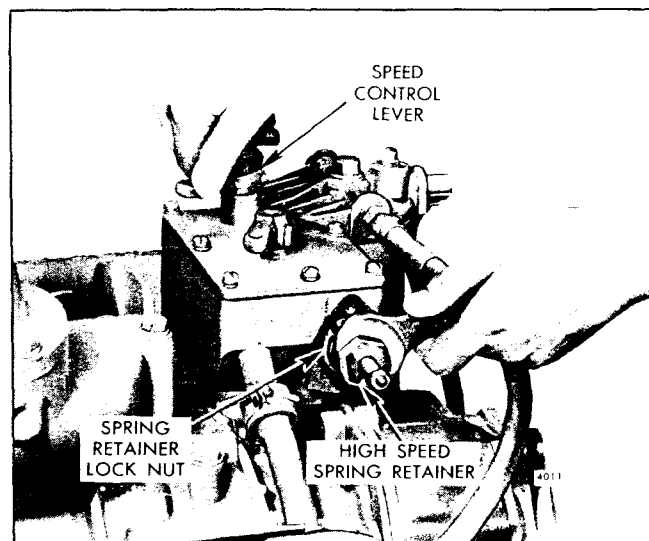

Fig. 4 - Adjusting Maximum No-Load Engine Speed
2. With the engine at operating temperature and no-load on the engine, place the speed control lever in the maximum speed position. Turn the high speed spring retainer in (Fig. 4) until the engine is operating at the recommended no-load speed. Use an accurate hand tachometer to determine the engine speed. The maximum no-load speed varies with the full load operating speed desired as shown in the following table.